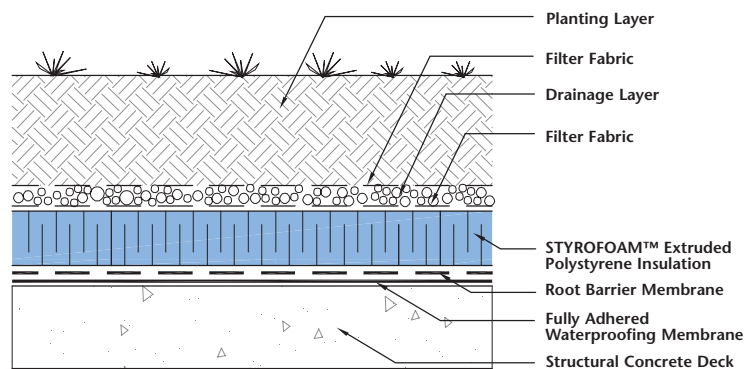

Figure 7
- Any other product that provides adequate drainage while providing minimal direct contact on the underlying insulation (Figure 7)